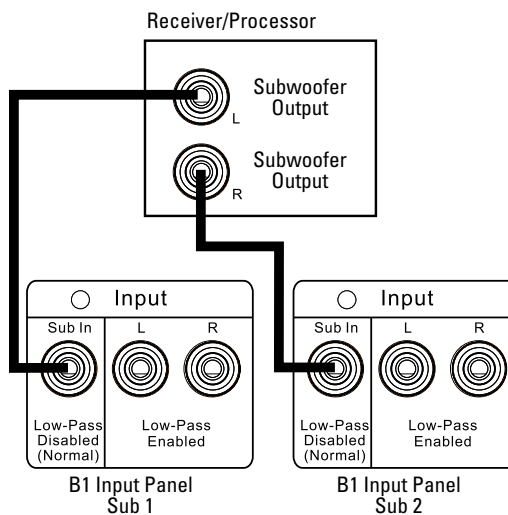

**Figure 12: Typical connection with multiple subwoofer outputs**
2. Connect the supplied RCA patch cable from one of the Subwoofer or LFE outputs on the processor/receiver to the Sub In connector on the B1 rear panel, as shown in Figure 12.